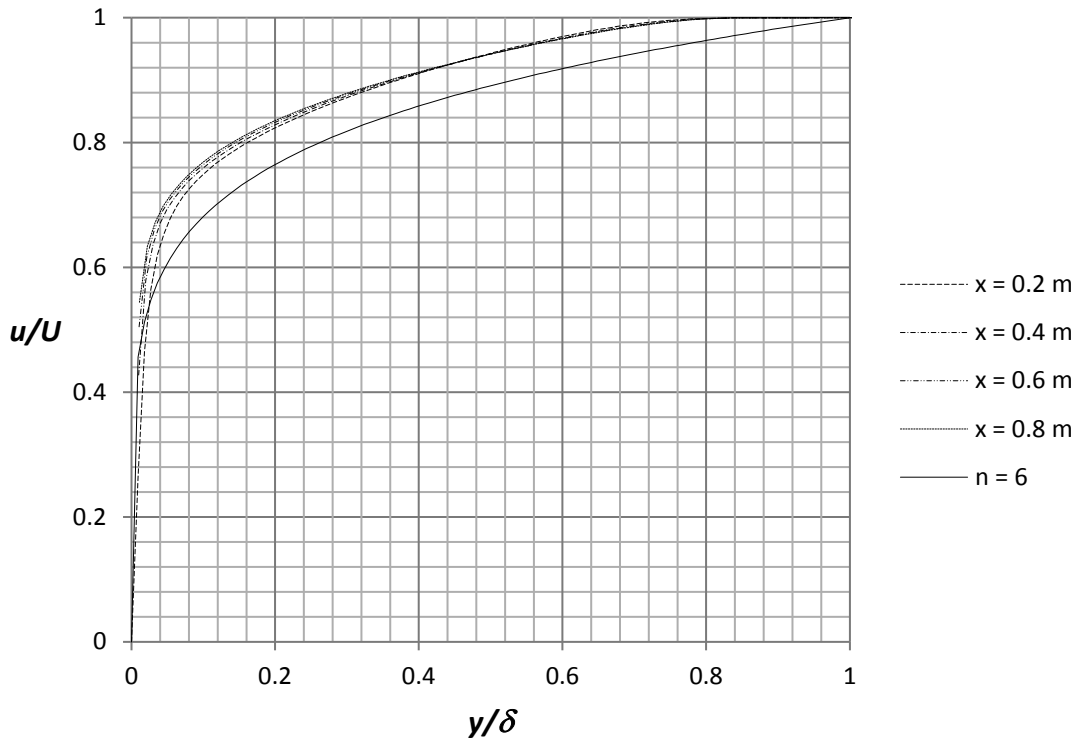

Figure 2.31 The same profiles as in figure 2.30a) compared with one-sixth power law for turbulent profile.
33. Place the file “**graph 2.31**” on the desktop. Repeat step 24 and choose the sketch $x = 0.2, 0.4, 0.6, 0.8$ m and check the box for **Velocity (X)**. Rename the xy-plot to **Comparison with One-Sixth Power Law**. An Excel file will open with Figure 2.31. In figure 2.31 we compare the results from Flow Simulation with the turbulent profile for $n = 6$. The power law turbulent profiles suggested by Prandtl are given by